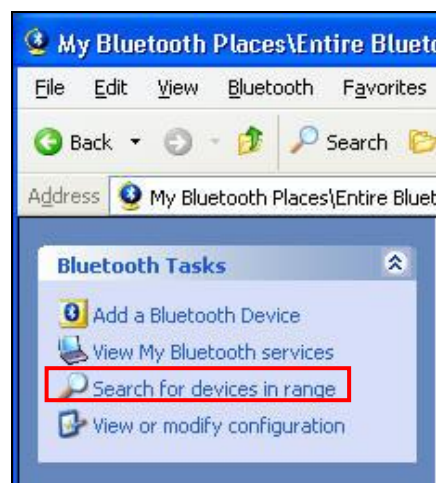

Figure 41: *My Bluetooth Places\Search for devices in range*
4. Right-click the Bluetooth icon on the Windows taskbar and select *Explore My Bluetooth Places* from the pop-up menu to open the *My Bluetooth Places* dialog box (see Figure 41).